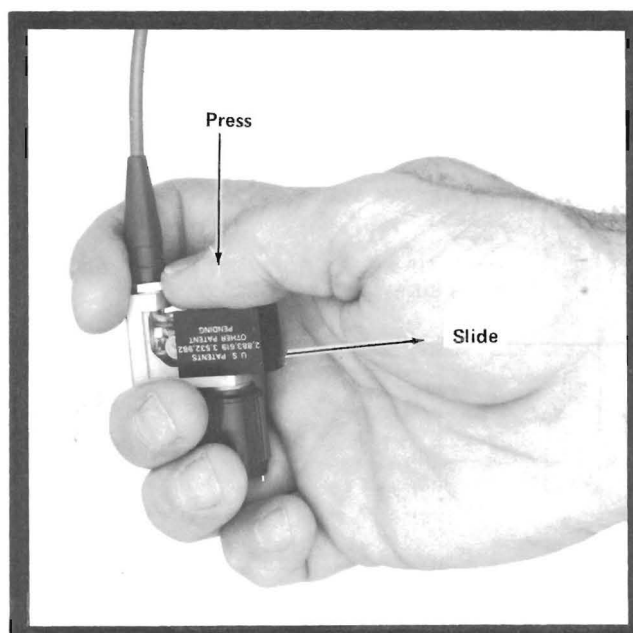

Fig. 5. Removal of compensation box cover.
1. Remove the snap-fit cover on the compensation box. See Fig. 5 for instructions.
1. Remove the compensation box cover (Fig. 5).